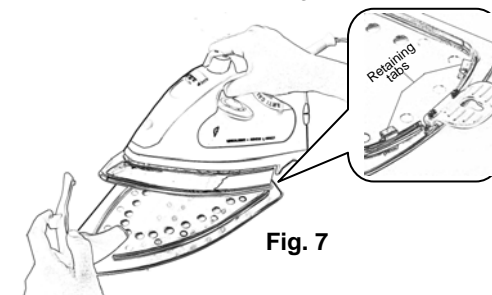

Fig. 7
- Lower the nose of the iron and close the soleplate clamp to secure the iron in place. See figure 7.